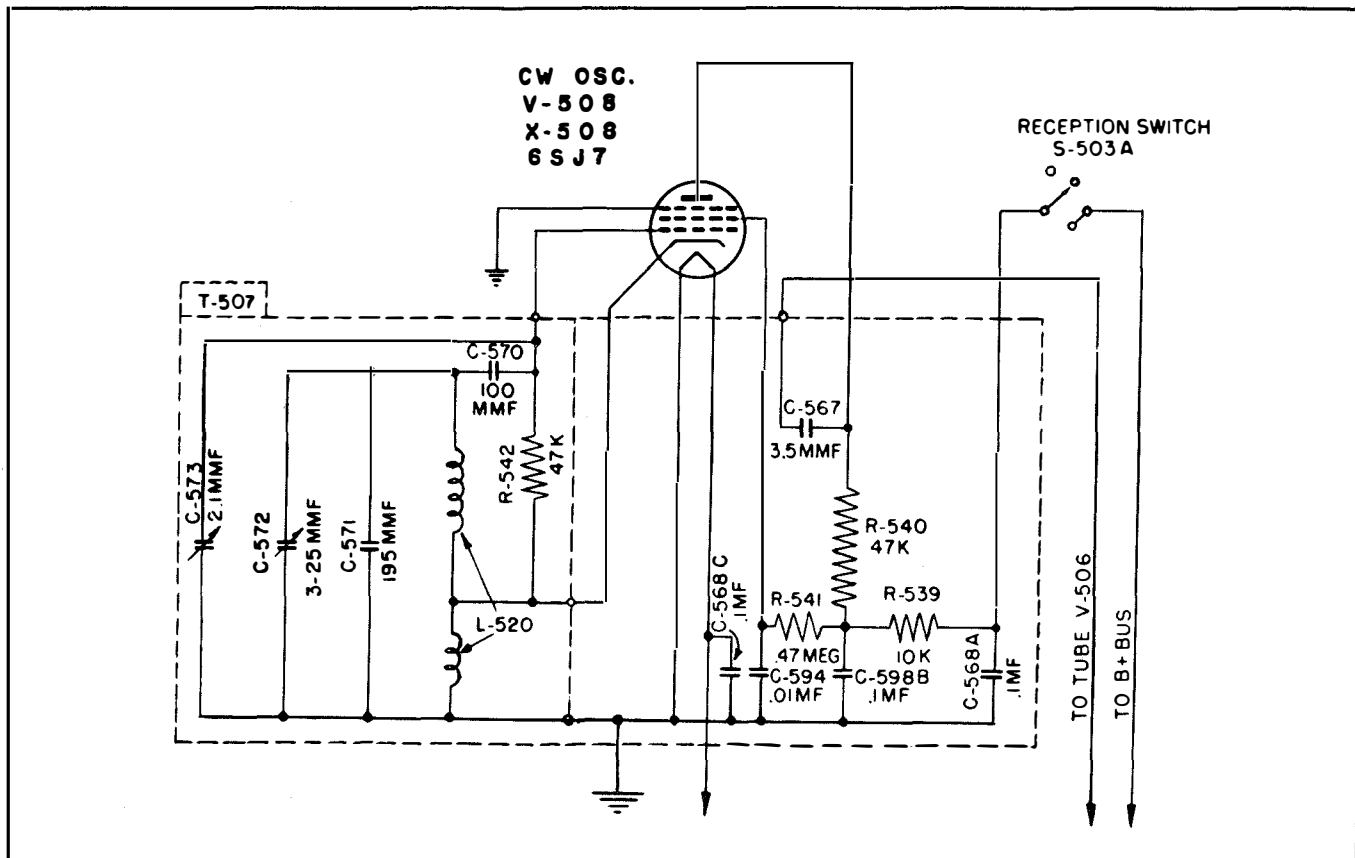

Figure 2-11. Beat Frequency Oscillator Circuit
d. THE BEAT FREQUENCY OSCILLATOR CIRCUIT (V-508). (See Figure 2-11).